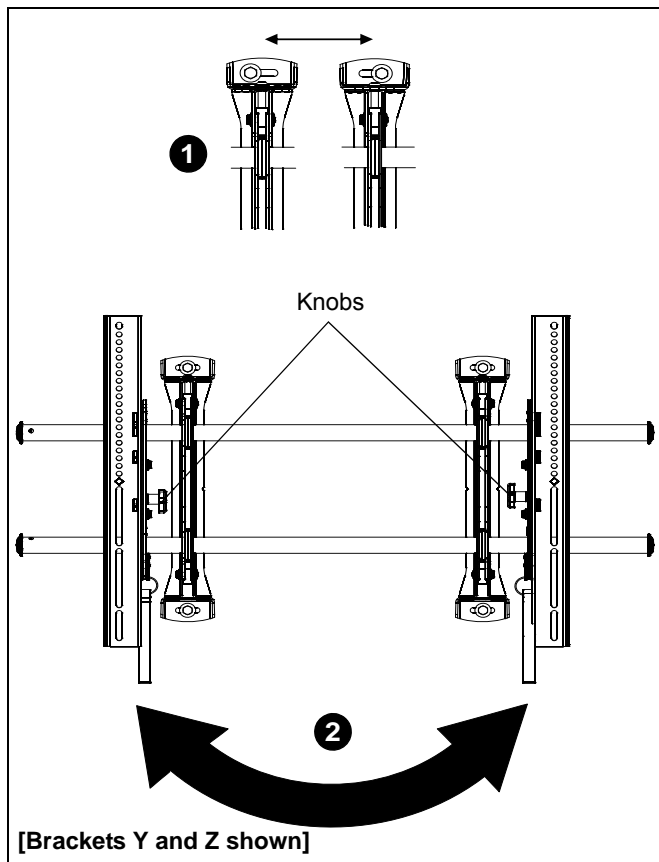

Figure 5
1. The wall brackets may be adjusted side to side at the point of attachment. (See Figure 5)
2. The location of the left and right interface brackets (W and X or Y and Z) may be switched, with the knobs on the LTM interface brackets (Y and Z) facing the inside of the mount. (See Figure 5)